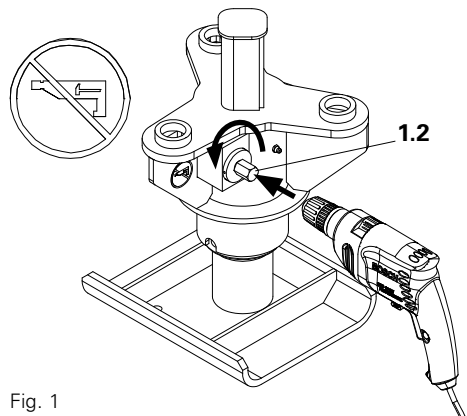

Fig. 1
2. In order to completely retract the Lowering Device HDA, turn the Driving Bolt (1.2) counterclockwise as far as possible. (Fig. 1)